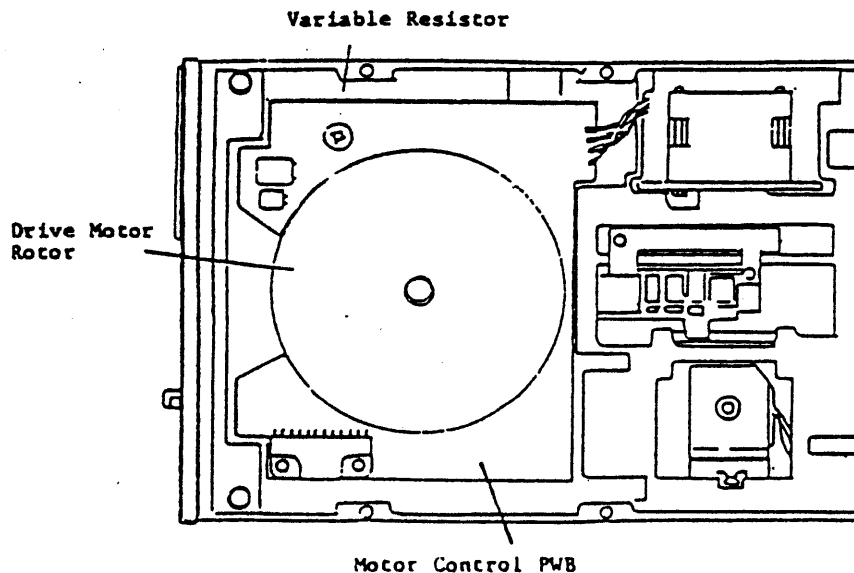

Figure 4.9.2
1. Adjust the variable resistor on the motor control PWB with a Phillips head screwdriver until the index period is 166.7 ms \pm 1.5% (refer to figure 4.9.2)